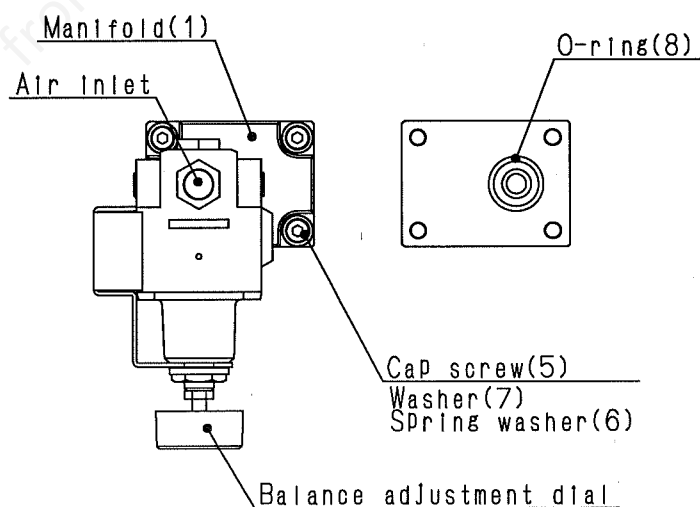

Fig.12
3. Install the control module as mentioned in Fig.12.